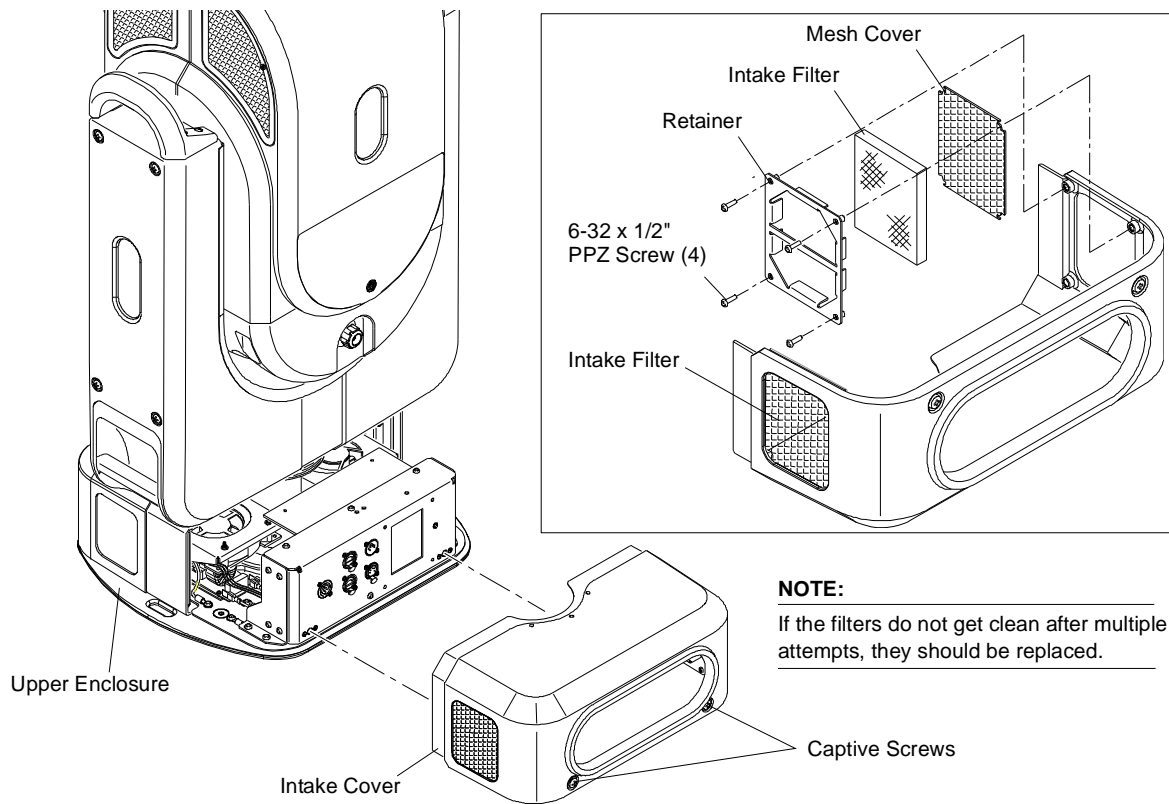

Figure 3-6: Removing Enclosure Intake Filters
- Step 2. Remove Intake Cover by first loosening two captive screws, then pulling away from Upper Enclosure as shown in **Figure 3-6**.